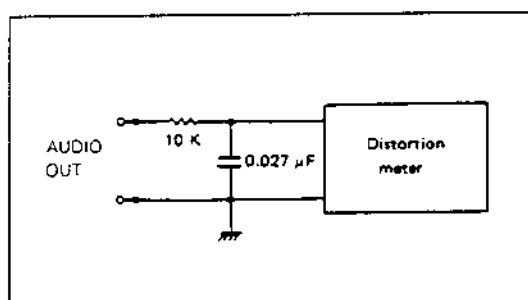

Fig. 2-5-12 Adjustment circuit
- 1) Using an adjustment circuit as shown in Fig 2-5-12, connect a distortion meter.